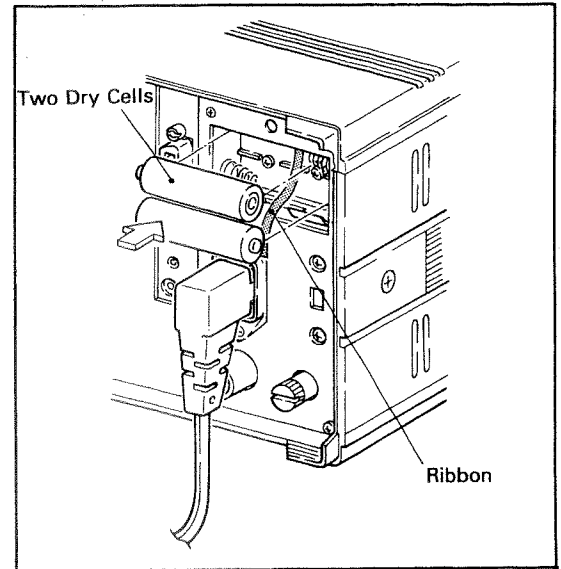

Figure 2-3.
3) In the middle of the internal battery case, a red ribbon is mounted. As shown in Figure 2-3, mount two furnished dry cells (R6P) on top of the ribbon.